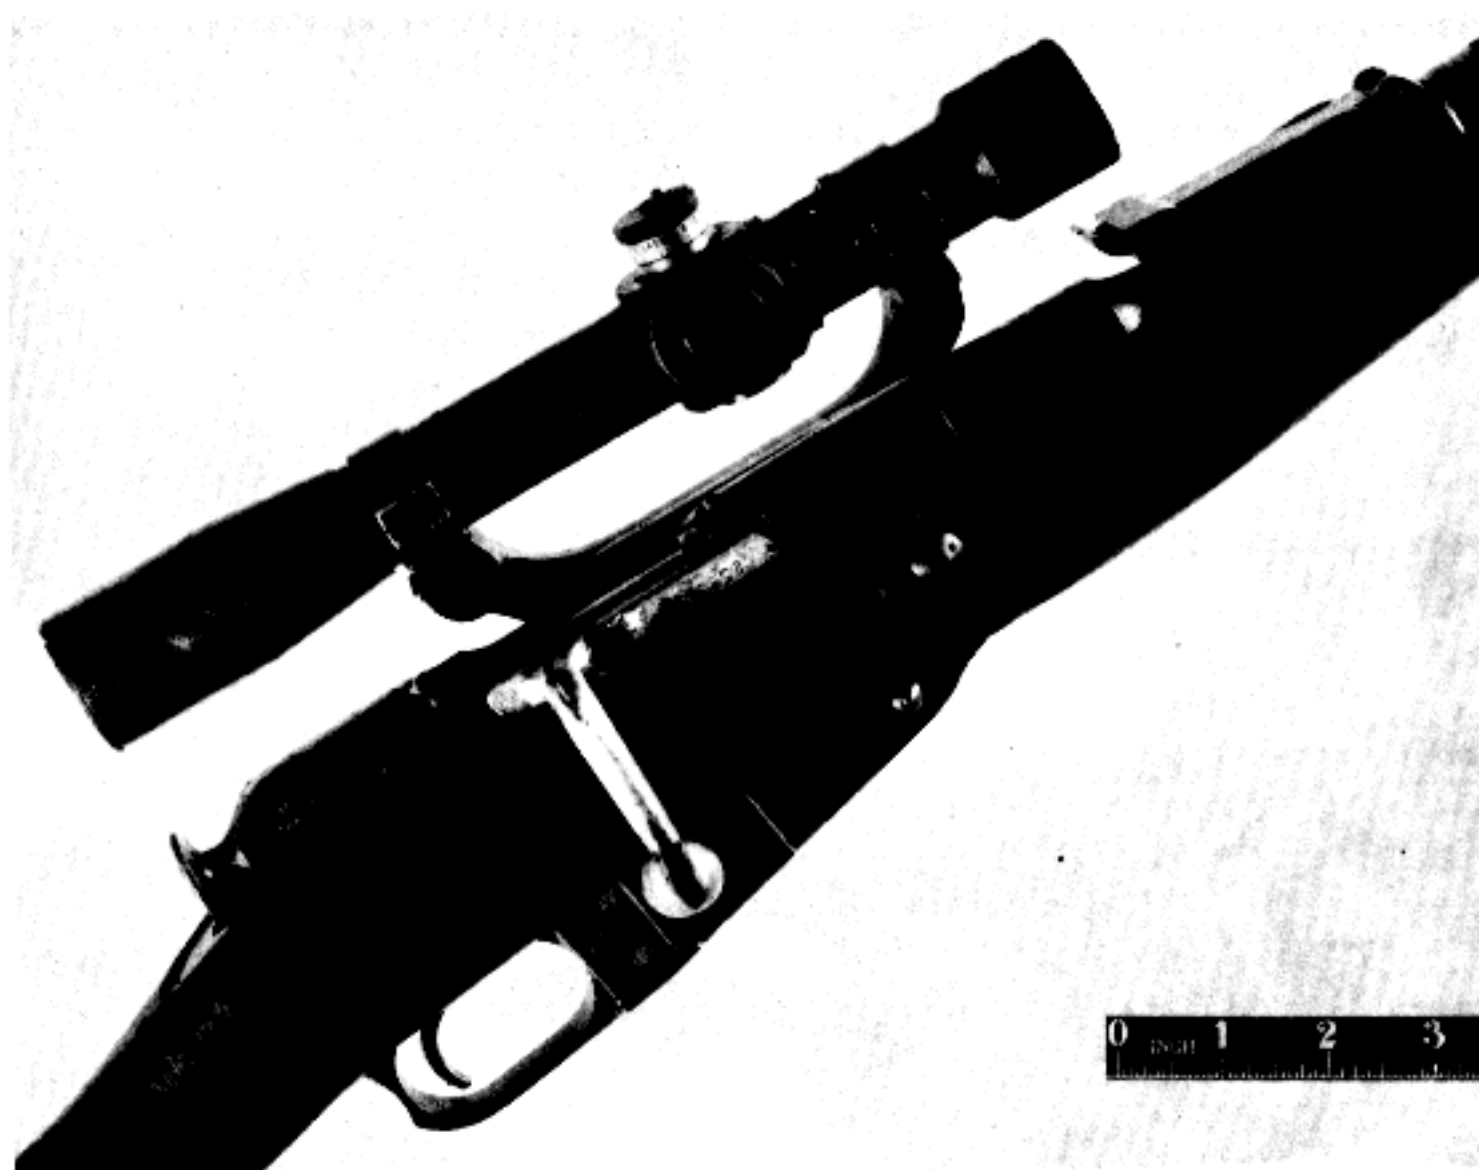
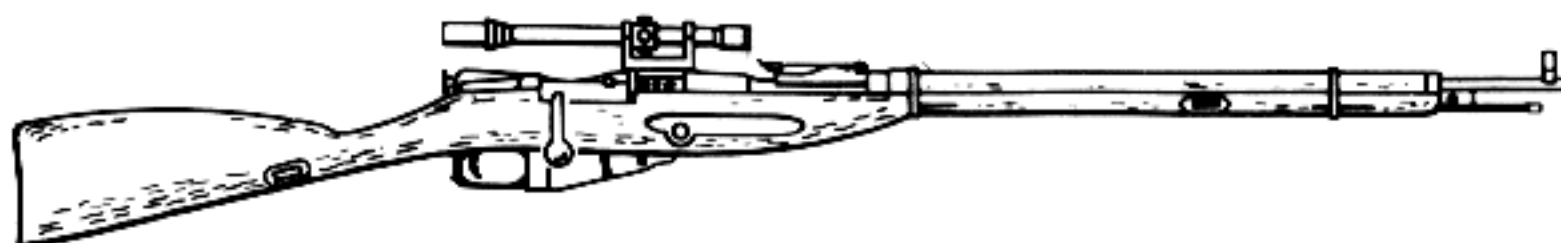

FIGURE 22. SNIPER RIFLE (MODEL OF TELESCOPE AND MOUNT UNKNOWN).
FIGURE 23. SNIPER RIFLE WITH PE TELESCOPE AND MOUNT.
b. The bolt handle has been lengthened and bent down to prevent interference with the telescope (fig. 22).
c. Additional machining and tapping on the receiver of the sniper rifle M1891/30 permits the installation of three different types of mounts and telescopes. The different types of telescopes and mounts used on the sniper rifles are illustrated in figures 23 through 30.
NOTE: If the PU telescope mount is to be used, these stocks must be cut away so that the mount may rest flush against the receiver. (Use of the unidentified sight mount shown in figure 22 may likewise necessitate cutting away part of the stock.)
a. The front and rear iron sights of this rifle are not removed when the telescope is attached, and are identical to those used on the rifle M1891/30. These sights may be used for ranges up to 700 meters (770 yards) without removing the telescope, when the rifle is equipped with the unidentified scope and mount shown in figure 22. The iron sights may be used up to 600 meters (660 yards) when the PE scope (fig. 23) is mounted, and up to 2,000 meters (2,200 yards) with the PU scope (fig. 27).